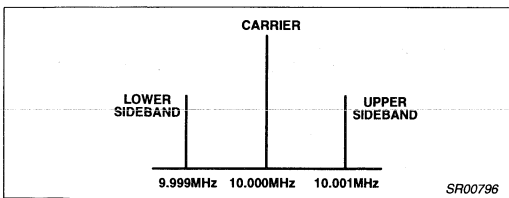
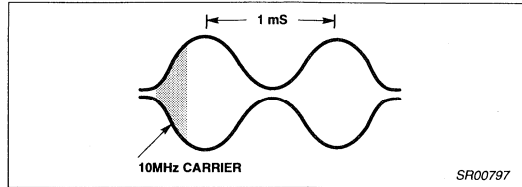

Figure 1. Frequency Domain Display of a 10MHz Carrier AM Modulated by a 1kHz Tone (Spectrum Analyzer Display)
Figure 2. Time Domain Display of the Same Signal Shown in Figure 1. (Oscilloscope Display)
Figure 1 shows the frequency spectrum of a 10MHz full-carrier double-sideband AM signal using a 1kHz modulating tone. This well-known type of signal is used by standard AM broadcast radio stations. Full-carrier AM's advantage is that envelope detection can be used in the receiver. Envelope detection is a simple and economical technique because it simplifies receiver circuitry. Figure 2 shows the time domain "envelope" of the same AM signal.
The 1kHz tone example of Figures 1 and 2 serves as a simple illustration of an AM signal. Typically, the sidebands contain complex waveforms for voice or data communications. In the full-carrier double sideband mode (AM), all the modulation information is contained in both sidebands, while the carrier "rides along" without contributing to the transfer of intelligence. Only one sideband without the carrier is needed to effectively transmit the modulation information. This mode is called "single-sideband suppressed carrier". Because of its reduced bandwidth, it has the advantages of improved spectrum utilization, better signal-to-noise ratios at low signal levels, and improved transmitter efficiency when compared with either FM or full-carrier AM. A finite frequency allocation using SSB can support three times the number of channels when compared with comparable FM or AM full-carrier systems.